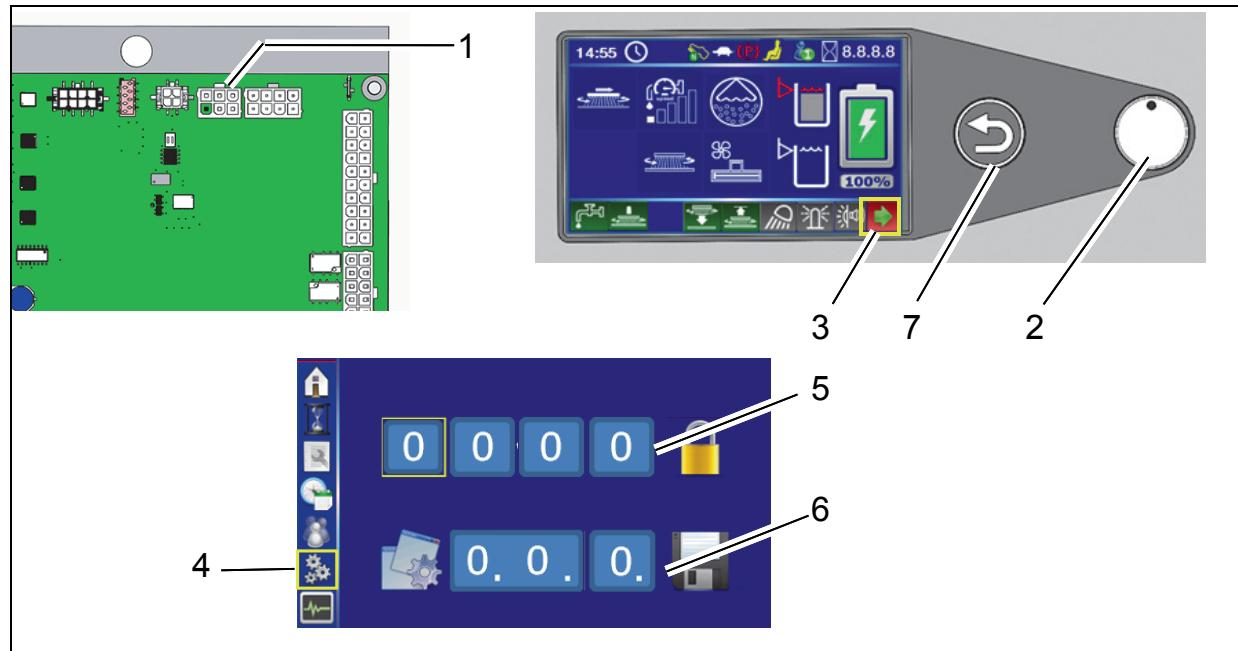

Fig. 3
Plug diagnosis plug into slot X20 of controller A1 (Fig. 3/1).
2. Select the arrow soft key (Fig. 3/3) on the control panel using the turn-push knob (DDS)(Fig. 3/2) and press to access the sub-menu.
3. Select the configuration menu in the sub-menu (Fig. 3/4).
4. Enter the 4-digit code in the configuration menu at the top (Fig. 3/5):
5. In the configuration menu at the bottom (Fig. 3/6), set the value of the option and save by pressing the DDS. After confirming the last digit, OK? appears. Press DDS again to save the value. Saved value is displayed in green.
If the value is not to be saved, exit menu using the return key (Fig. 3/7).